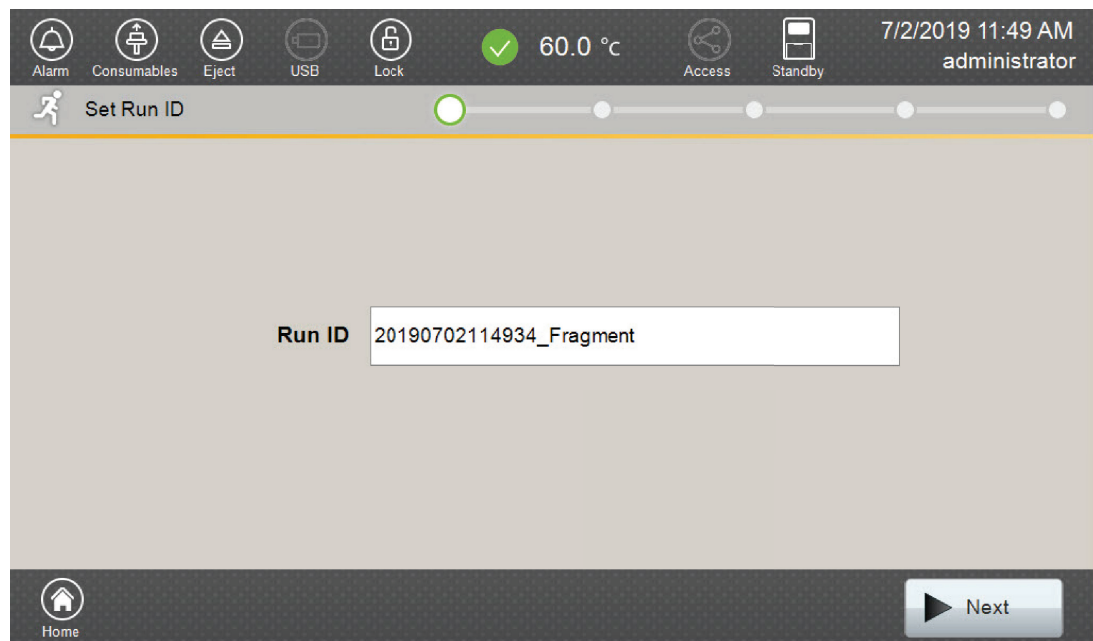

Figure 10. ‘Set Run ID’ screen.
- Use the default name that includes date, time and “Fragment” or enter a Run ID on the ‘Set Run ID’ screen (Figure 10). Select the Run ID box to open the ‘Run ID’ window and a keypad will become active on the touch screen. Alternatively, the Run ID can be entered using a traditional keyboard if one is connected to the Spectrum Compact CE System.